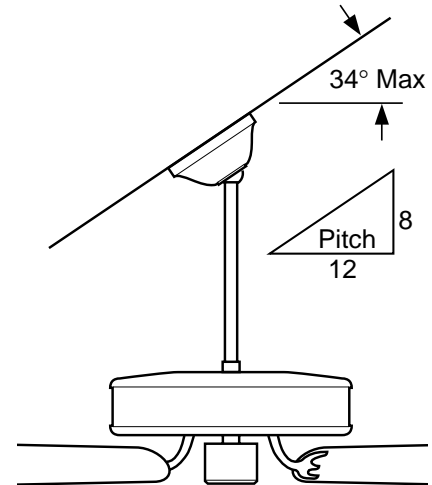

Figure 1c - Angle Mounting
**Angle Mounting** (Figure 1c) hangs from a vaulted or angled ceiling.